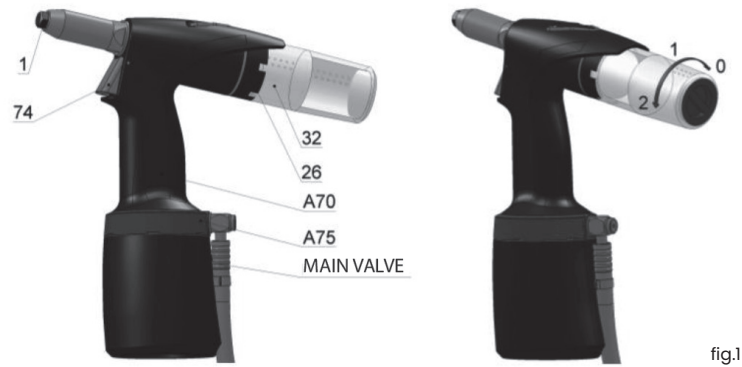

fig.1
Check the opening of the hand slide valve [main valve fig. 1] on the tool. All devices in our AS series can be quickly disconnected from the compressed air to check or temporarily switch off the suction device.
The manufacturer equipped the tool with a nosepiece /fig.1 - pos.1/ for a blind rivet  $\varnothing$  5.0 mm. Riveting with blind rivets of different diameters [further on referred to as BR] requires use of appropriate nosepieces /fig.1 pos.1/ that are located in the accessories casing of the tool.
**Replacement of nosepieces:** Connect the tool to the source of compressed air, depress the trigger and screw out the nosepiece /fig.1 - pos.1/ with a spanner no. 12. Screw on a new nosepiece and tighten it. Now you can release the trigger of the tool.
The tool is equipped with revolving air supply /fig.1 - pos.A75/ which enables manipulation with air supply before as well as during tool operation, air hose does not obstruct riveting in any position.
The tool is equipped with multifunction trigger /fig.1 - pos.74/ which enables following:
- › Unlock the trigger [shifting the trigger down to the stop] and release it. The suction is switched on and the trigger is in initial position see fig.1.
The tool is equipped with a multifunctional mandrel collector /fig.1/ which has the following positions:
Put and push the mandrel collector /fig.1 - pos.32/ into the ring relief /fig.1 - pos.26/ end-to-end, thus you depress the arrestment element, and turn to position 1 or 2. The mandrel collector shall thus be in place. The suction shall initiate in position 2. Relative position of the mandrel collector with air outlets /fig.1 - pos.26/ and the ring relief /fig.1 - pos.32/ ensures that the outlet air pressure goes out in a suitable direction [e.g. offward the operator of the tool].
Turn the mandrel collector /fig.1 - pos.32/ end-to-end to position 0 and pull it out of the ring relief /fig.1 - pos.26/. The suction shall thus switch off.
Suction switches off by turning and removing the mandrel collector /fig.1 - pos.32/. Insert BR into the riveting tool through the nosepiece hole. Depress the trigger to move the jaws offward the BR head. The movement ends when reaching max. stroke, correct BR with respect for material gauge shall tear off the shank [riveting] for one stroke of the tool. Releasing the trigger shall return the jaws to initial position and released torn-off shank can be removed from the nosepiece by tilting the tool. /fig.1 - pos.1/ [does not apply for structural rivets].
Mounting and turning the mandrel collector /fig.1 - pos.32/ to position 1 shall arrest it. Insert BR into the riveting tool through the nosepiece hole. Depress the trigger to move the jaws offward the BR head. The movement ends when reaching max. stroke, correct BR with respect for material gauge shall tear off the shank [riveting] for one stroke of the tool. Releasing the trigger shall return the jaws to
Suction switches on by turning the mandrel collector /fig.1 - pos.32/ to position 2. In this position the suction holds BR in the nosepiece /fig.1 - pos.1/ which enables riveting in any position without danger of BR falling out of the nosepiece of the tool. Depressing the trigger shall perform riveting. Releasing the trigger shall transport the shank into the mandrel collector.